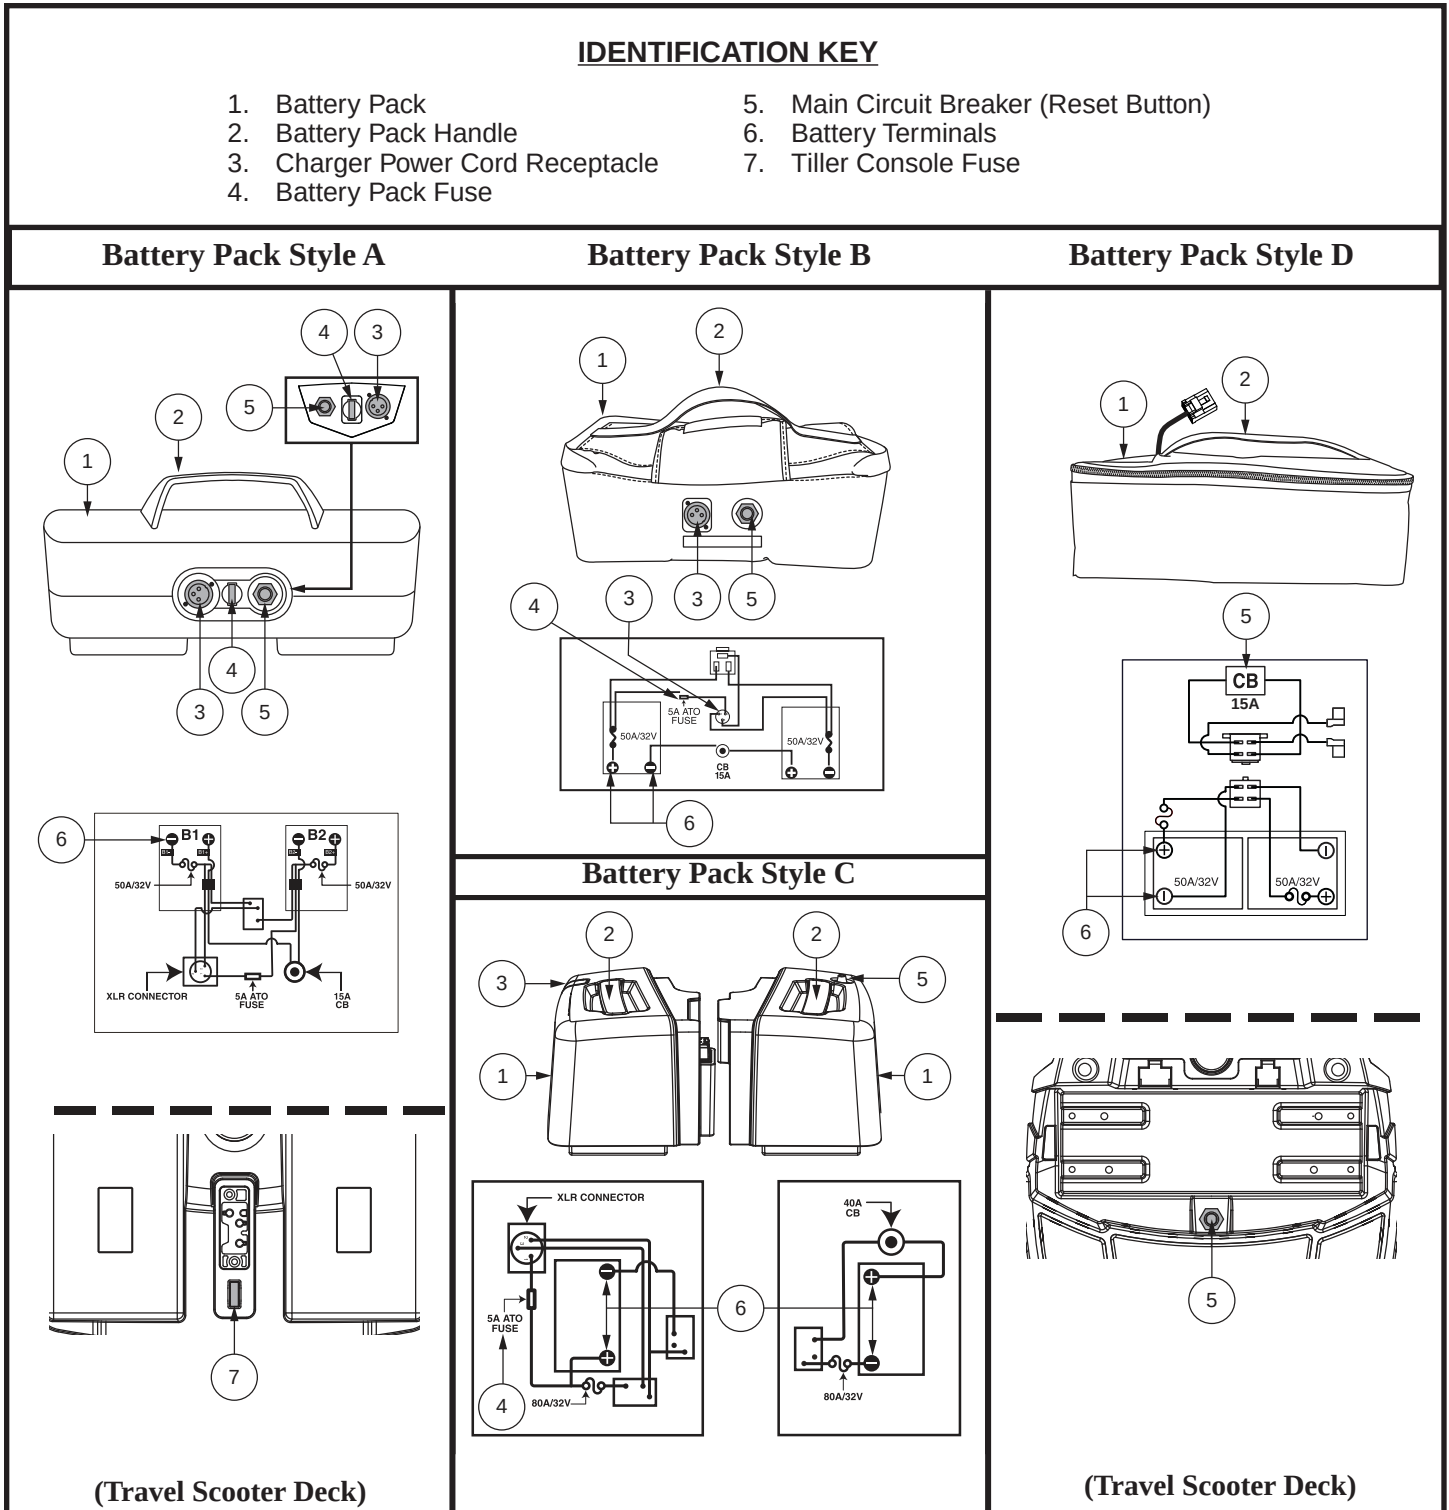

Figure 9. Battery Pack
When the voltage in your Travel Scooter's batteries becomes low or the Travel Scooter is heavily strained because of excessive loads or steep inclines, the main circuit breaker may trip to protect the motor and electronics from damage. **See figure 9.**
Your Travel Scooter is equipped with an innovative, easy-to-remove battery pack. A handle on the top of the battery pack makes it easy to lift the pack off of the Travel Scooter with one hand. The battery pack contains two rechargeable batteries, and may contain the charger power cord receptacle, the main circuit breaker (reset button), and the battery pack fuse. See figures 9 and 10.
The fuse located under the battery pack protects the tiller console electronics. See figure 9. In the event any component of the tiller console is not responding, check this fuse. See VII. “Basic Troubleshooting” for fuse replacement instructions.
- Ensure that the fuse on the battery pack is in working condition. **See figures 9 and 10.**